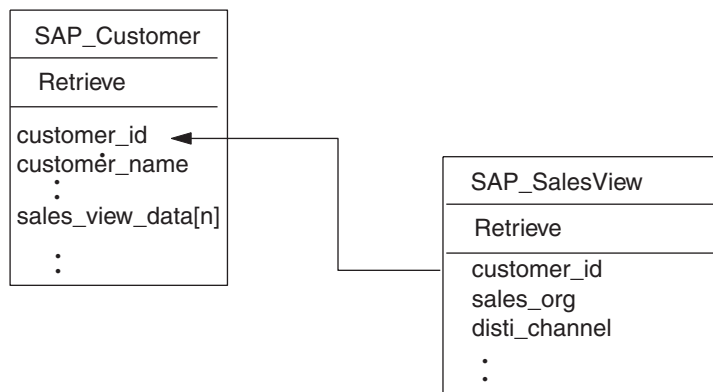

Figure 32. Example customer and sales view relationship
- In a multiple-cardinality relationship, the foreign key is determined by the primary key in the child referencing the **primary key** attribute in the parent. Each child has at least one simple attribute that contains the parent's primary key as a foreign key. The child has as many foreign-key attributes as the parent has primary-key attributes. Figure 32 on page 215 provides an example.
Figure 32 provides an example of a different WebSphere business object developed to process customer objects in SAP. This example SAP_Customer has a multiple-cardinality relationship to the example sales view object that it contains (the sales_view_data[n] attribute has cardinality n). The primary key attribute (customer_id) in the child business object references the primary key (customer_id) in the parent business object.